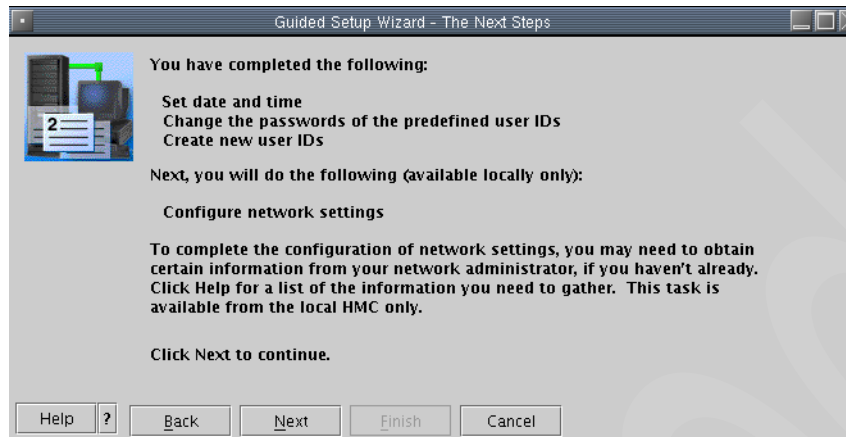

Figure 4-10 Guided Setup wizard - The next steps
10. This completes the first part of the Guide Setup wizard. The Guided Setup - The Next Steps panel is displayed (see Figure 4-10).